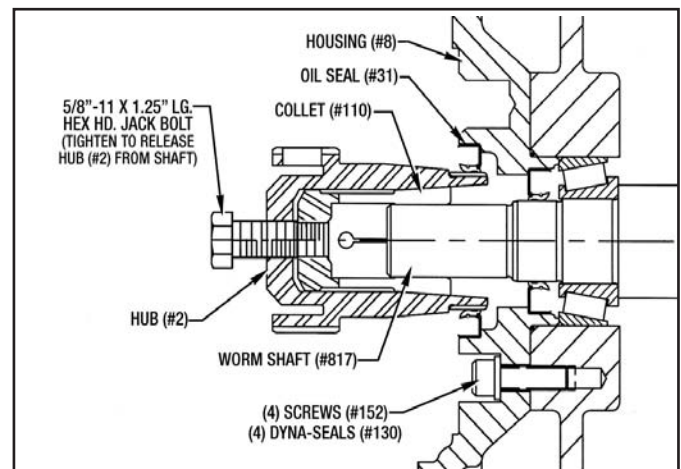

Figure 6.1 - Removing Hub From Worm Shaft
2. Evenly back out the (8) Screws (#72) and (8) Lockwashers (#128).
5. Remove the (6) Screws (#153) and (6) Lockwashers (#127) from the Piston Housing (#10). **Be very careful when backing these (6) Screws out, because the Housing is under spring pressure.**
6. Pull the Piston Housing (#10) and the Piston (#3) out and away from the remaining Brake Assembly. Remove O-Ring (#104) and the (6) O-Rings (#34). Discard all of them.
7. Remove the (6) Springs (#36) from the spring pockets.
10. Remove the Screw (#94) & the Brass Washer (#81) and thread a 5/8"-11 x 1-1/2" Hex Hd. Screw into the Hub. (#2). Tighten to remove Hub (#2) from Worm Shaft (#817). (See Figure 6.1)
12. Remove the (4) Screws (#152) and the (4) Dyna-Seal Washers (#130). Take the Housing (#8) off of the Main Housing (#800). Discard O-Ring (#872) (See Figure 6.1)